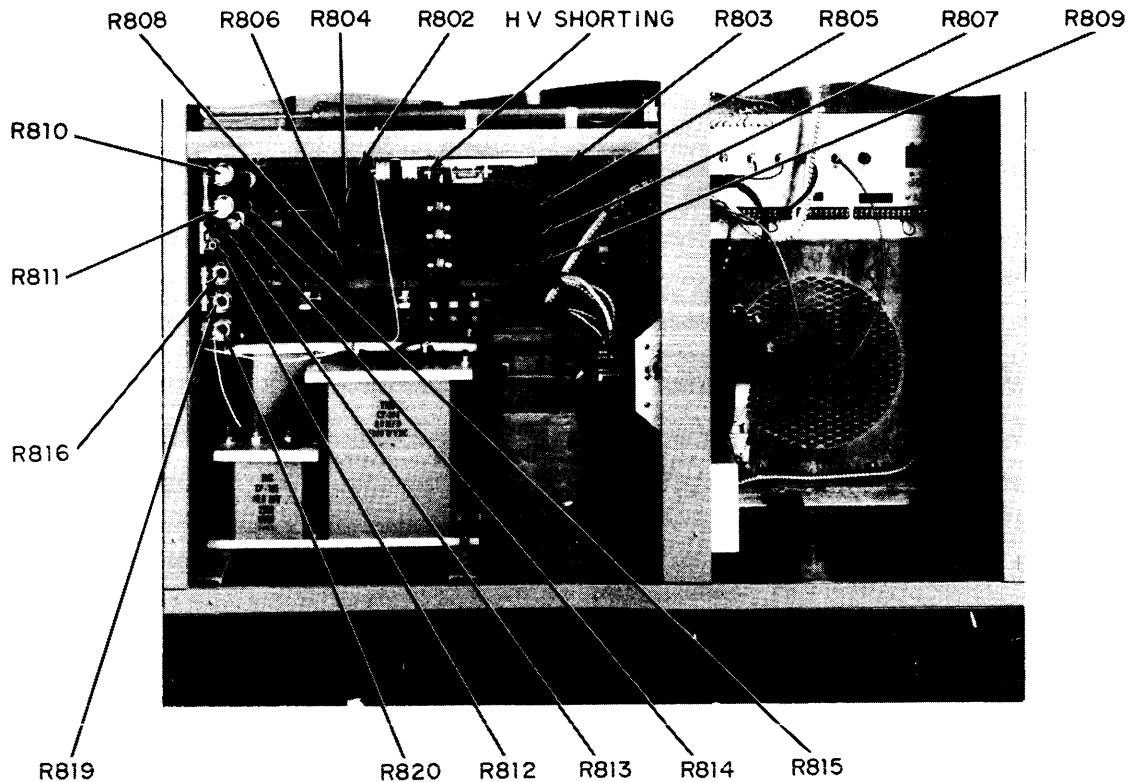

Figure 2-7. Lower Rear Compartment, Second Frame, Installation Diagram
- (19) Mount fixed resistors R802 through R816, R819, and R820 on the resistor board (refer to figure 2-7) in the bottom rear compartment of the second frame.